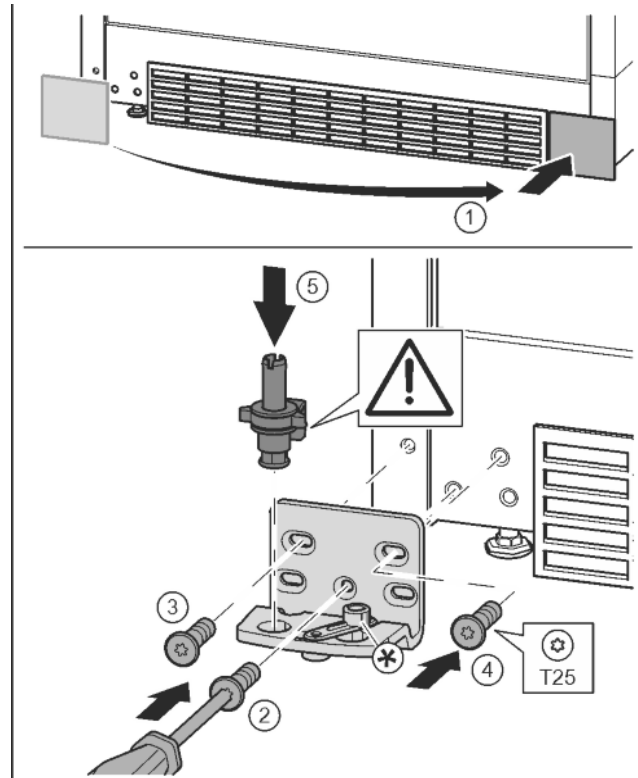

Fig. 13
- ▶ Remove the cover and fix it on the other side. Fig. 13 (1)
- ▶ Place the bearing bracket on the other side and screw in with the aid of a T25 screwdriver. Start with screw 2 at the bottom in the middle. Fig. 13 (2)
- ▶ Screw in screws 3 and 4. Fig. 13 (3, 4)
- ▶ Insert the bearing pin completely. Make sure that the catch mechanism is pointing to the rear. Fig. 13 (5)